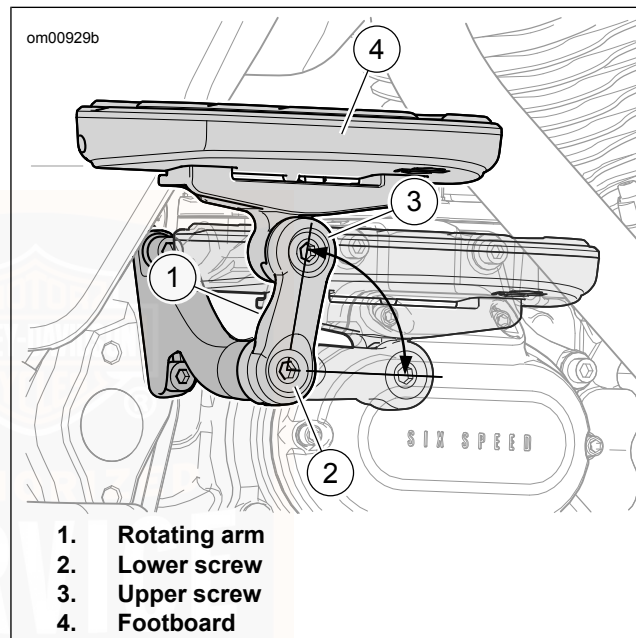

Figure 45. Rotating Arm and Footboard
See Figure 45. The rotating arm (1) is mounted on a toothed ratchet that only allows 90 degrees of rotation.
1. Loosen the lower screw (2).
1. See Figure 45. Loosen upper screw (3) to allow the footboard to rotate.
2. Rotate footboard (4) to horizontal or to a desired angle.